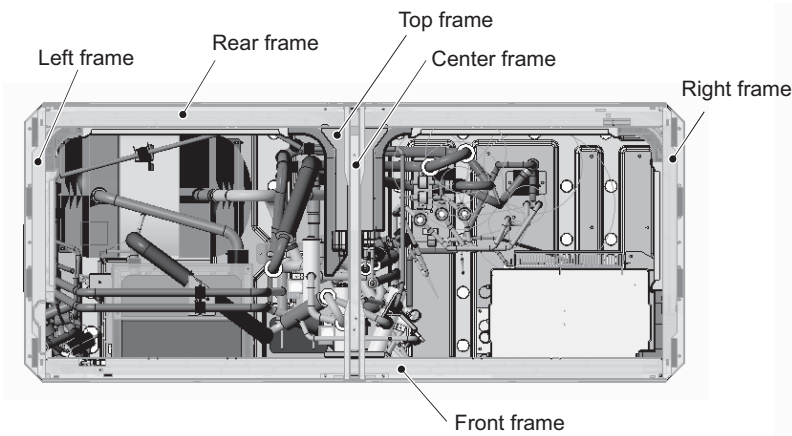

Figure 15
To remove the rear heat exchanger, remove the braze from four areas. (See Figures 15 and 16.)
Removal of the rear heat exchanger on a high-efficiency model (Figure 15)
- (14) To remove the front heat exchanger, first remove the front, left, right, and center frames by unscrewing the 16 screws. (See Figure 15.)
To remove the right and left rear heat exchangers, remove the top and the rear frames in addition to the front, left, right, and center frames by unscrewing the 21 screws. (See Figure 15.)